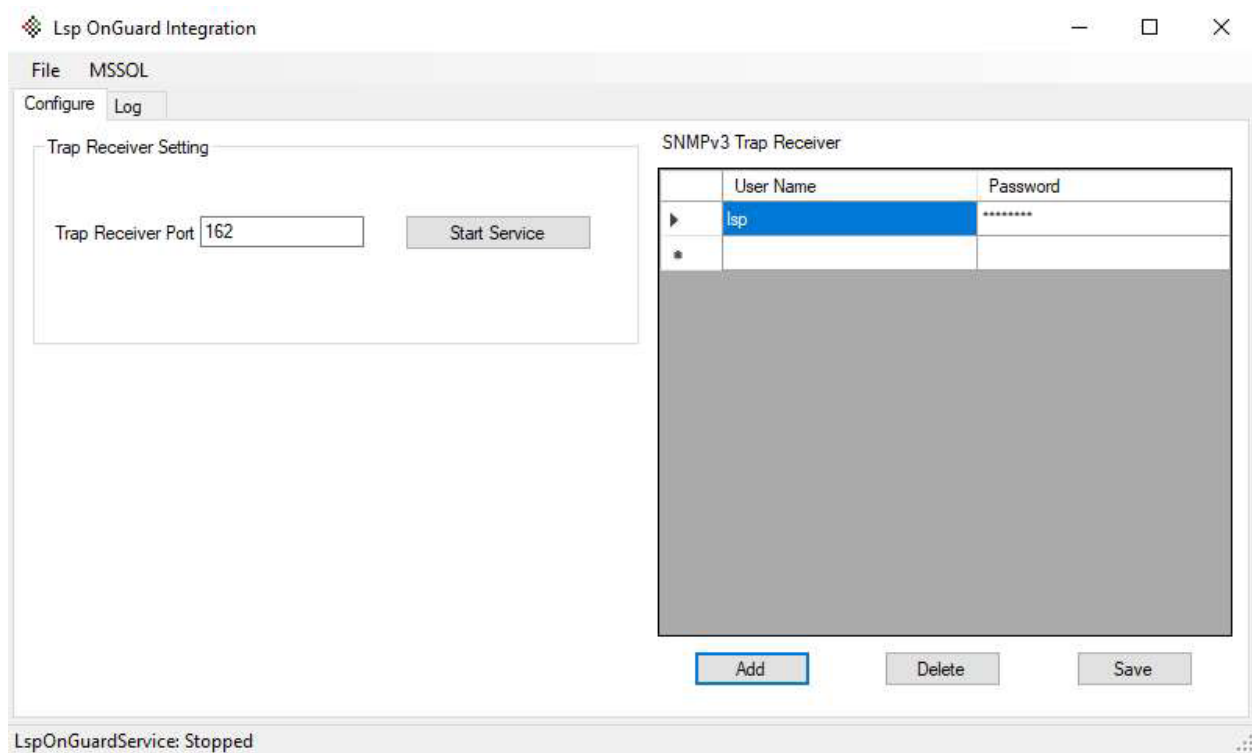

Figure 13
10. Enter the SNMP Trap Receiver port. This port number should match the port set in the NetLink devices. See Figure 13.